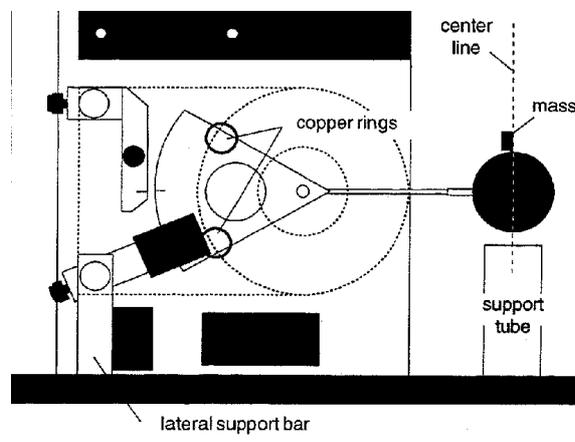

Figure 12.2: Calibrating the Torsion Balance
1. Carefully turn the Torsion Balance on its side, supporting it with the lateral support bar, as shown in Figure 12.2. Place the support tube under the sphere.